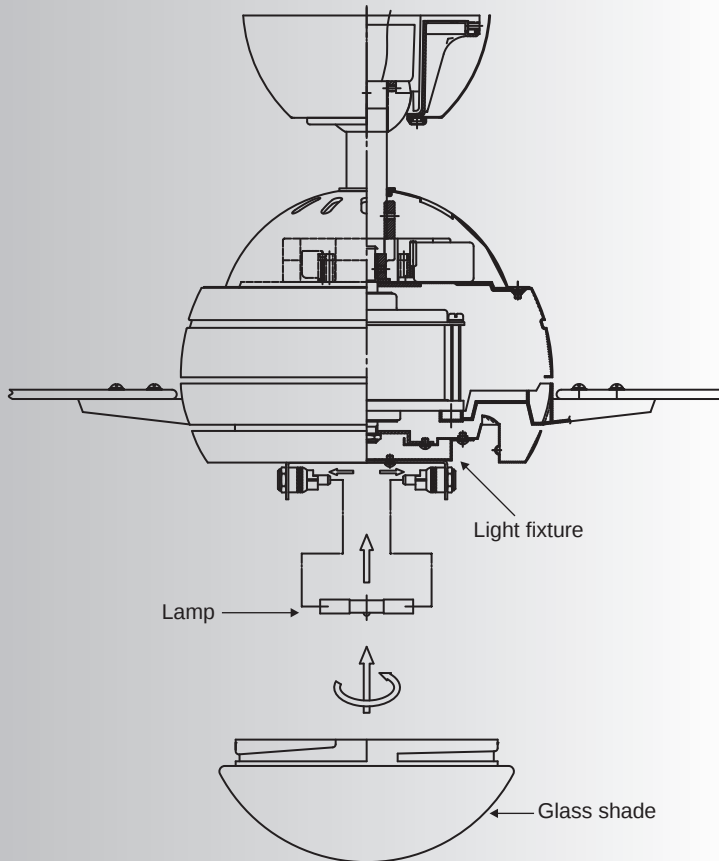

Fig. 18
Step 2. Raise the glass shade against the light fixture and turn clockwise until snug, **DO NOT OVERTIGHTEN**. (Fig. 18)